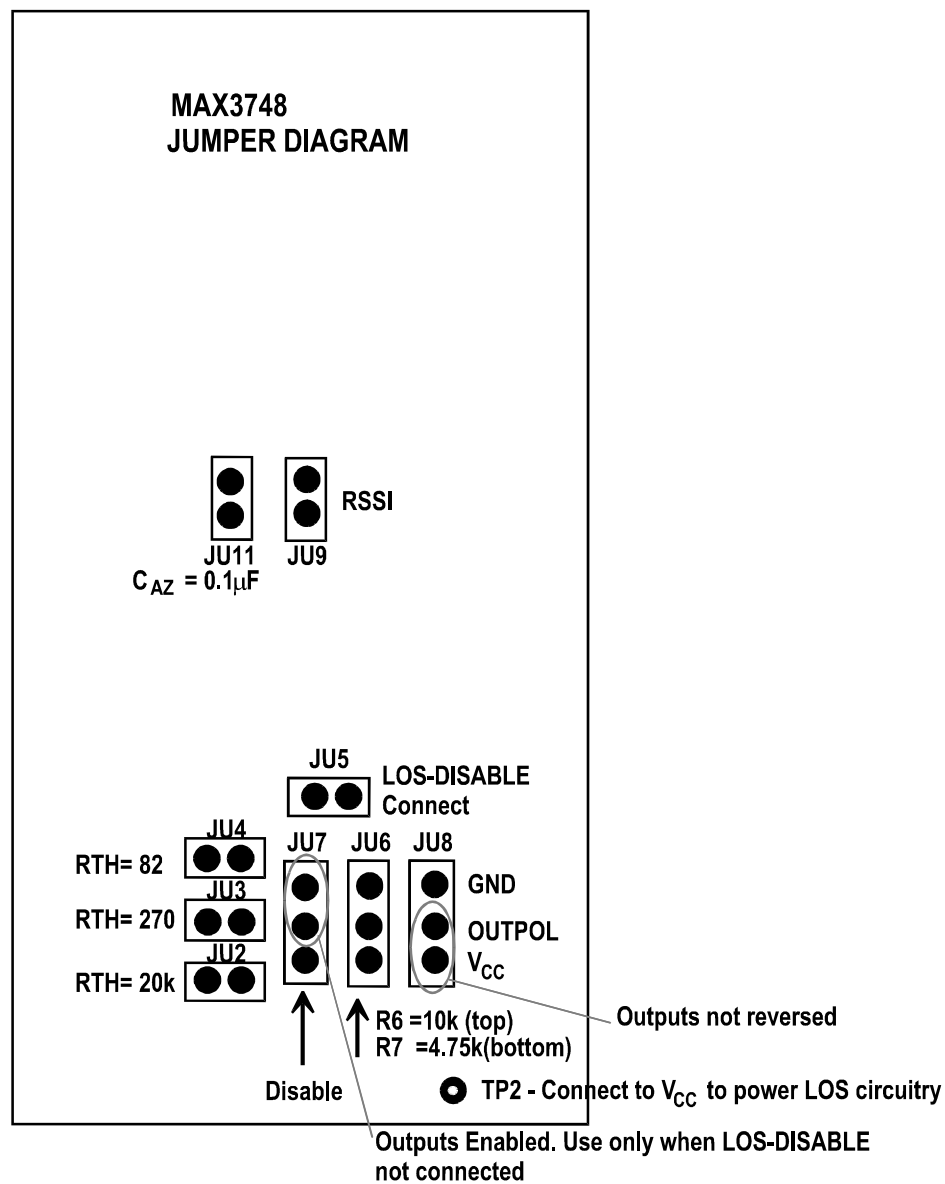

Figure 2. Jumper Diagram.
- 4) Shunt JU8 to VCC so that there is no inversion of signal polarity. (OUTPOL, VCC). Figure 2 shows the jumper diagram for the board.